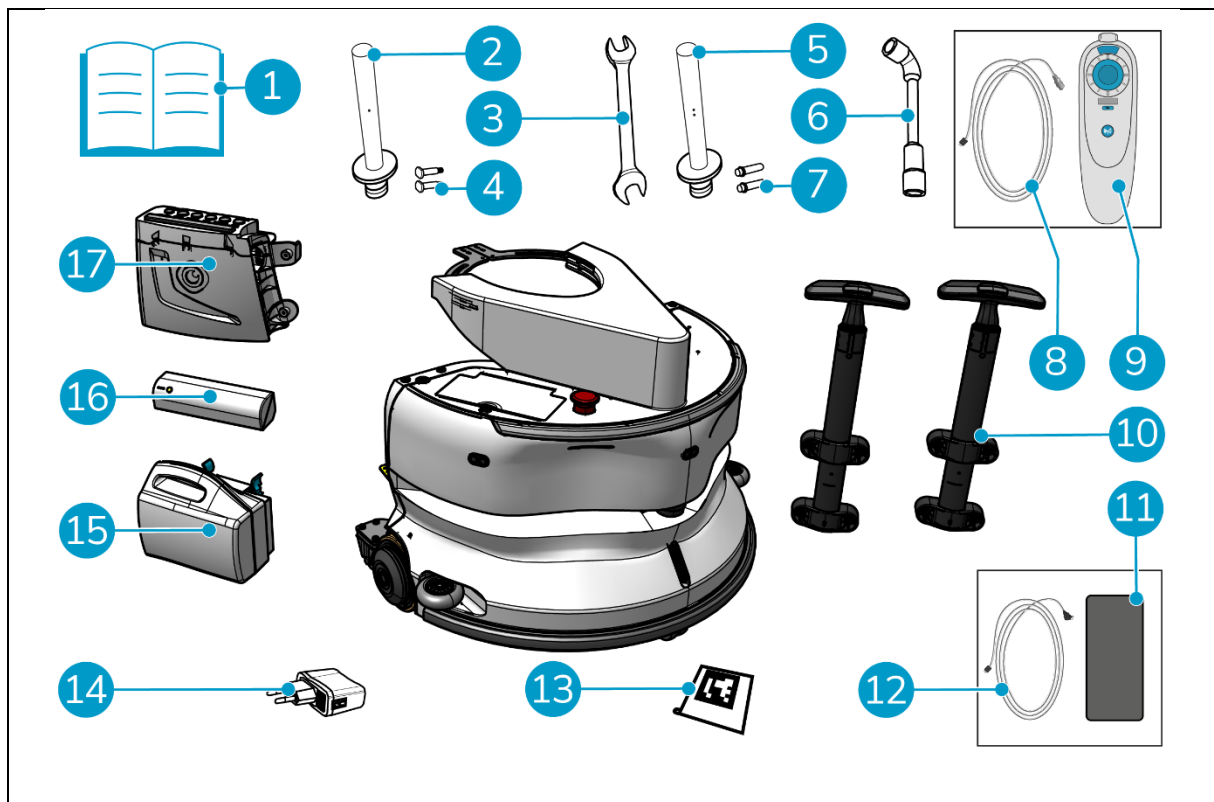
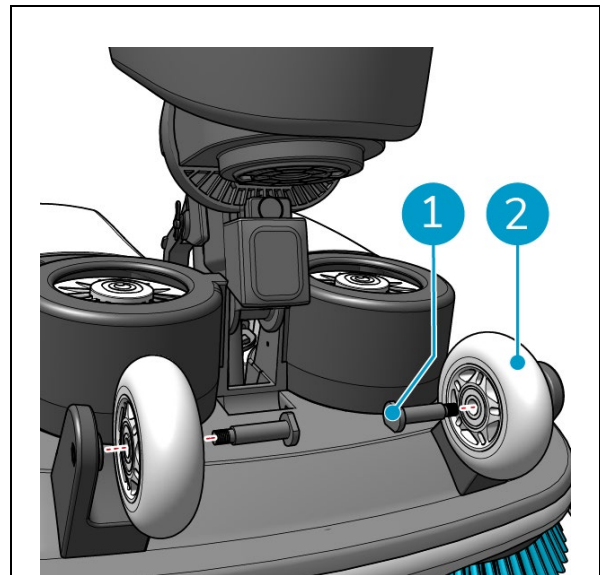

Figure 10
Figure 14
1. Use the provided wrench (Figure 10, pos. 3 & 6) to remove the front wheels (Figure 14, pos. 2) from the i-mop XL.
2. Remove the existing wheel axles (Figure 14, pos. 1).
Connection bar with 1 hole (Type I) and corresponding axles (Figure 10, pos. 2 & 4)
Connection bar with 2 holes (Type II) and corresponding axles (Figure 10, pos. 5 & 7)